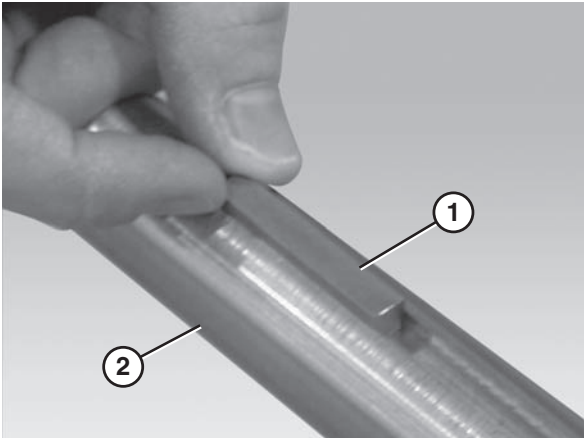
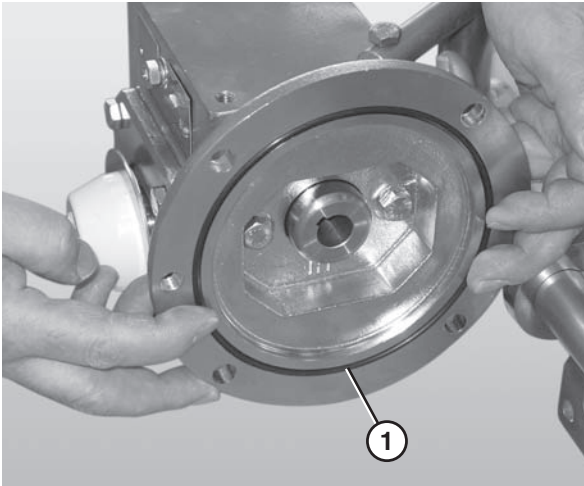

Figure 52
Figure 53
8. Insert the gearmotor output shaft key (Figure 52, item 1) into the gearmotor output shaft keyway (Figure 52, item 2).
Ensure the O-ring (Figure 53, item 1) and gearmotor output shaft key (Figure 52, item 1) are situated properly before attaching the motor to the gear reducer.